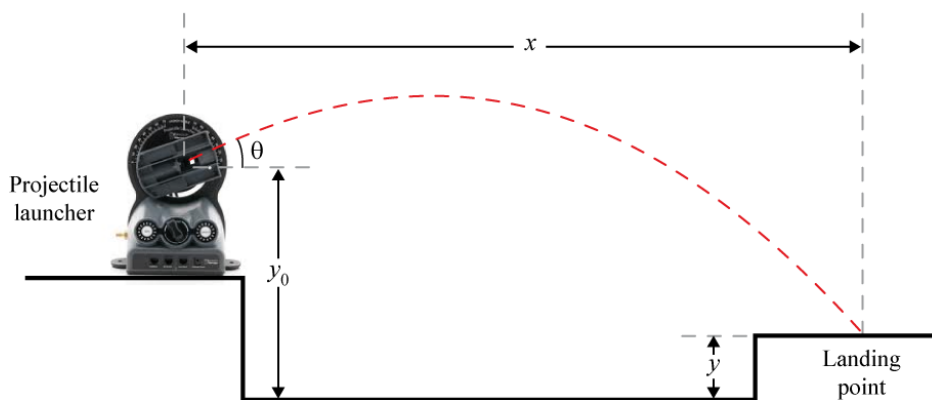

Figure 1 – Geometry of the projectile motion
where y_0 is the initial height of the ball and y is the vertical position of the ball when it hits the target (see Figure 1). If we know v_0 and θ , we can solve this quadratic equation to find the flight time, t . We can then use $x = (v_0 \cos \theta)t$ to predict the horizontal range, x , of the projectile.
- Step 1.* Locate the time of flight pad. The pad functions as an electrical switch to provide timing information. When a projectile strikes the surface of the pad, a circuit is closed and timing information can be recorded by an interface and software. You will use this pad to measure the time interval taken by a projectile from the moment of launch to the moment of landing—in other words, the time of flight. Place the pad on the lab jack and adjust the jack height in order to have the surface of the pad at 0.146m from the surface of the table. That height corresponds to the height of the launching point (the center of the circular part of the launcher, see Figure 1). This setup is a particular case of the projectile motion for which $y_0 = y$. This simplifies eq. 1, leaving us with: